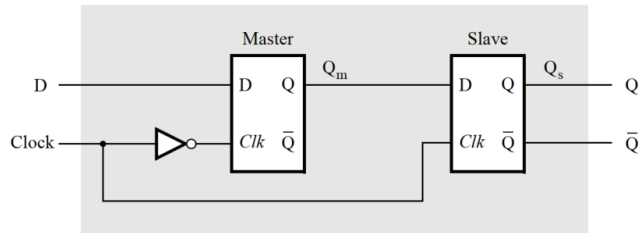

Figure 2: Circuit for a master-slave D flip-flop.
Requirement: Write a VHDL code for a master-slave D flip-flop which is shown Figure 2.
- Write a VHDL file that instantiates the three storage elements. For this part **you should no longer use the KEEP directive (that is, the VHDL ATTRIBUTE statement)**. The following code gives a behavioral style of VHDL code that specifies the gated D latch. This latch can be implemented in one 4-input lookup table. Use a similar style of code to specify the flip-flops in Figure 2.